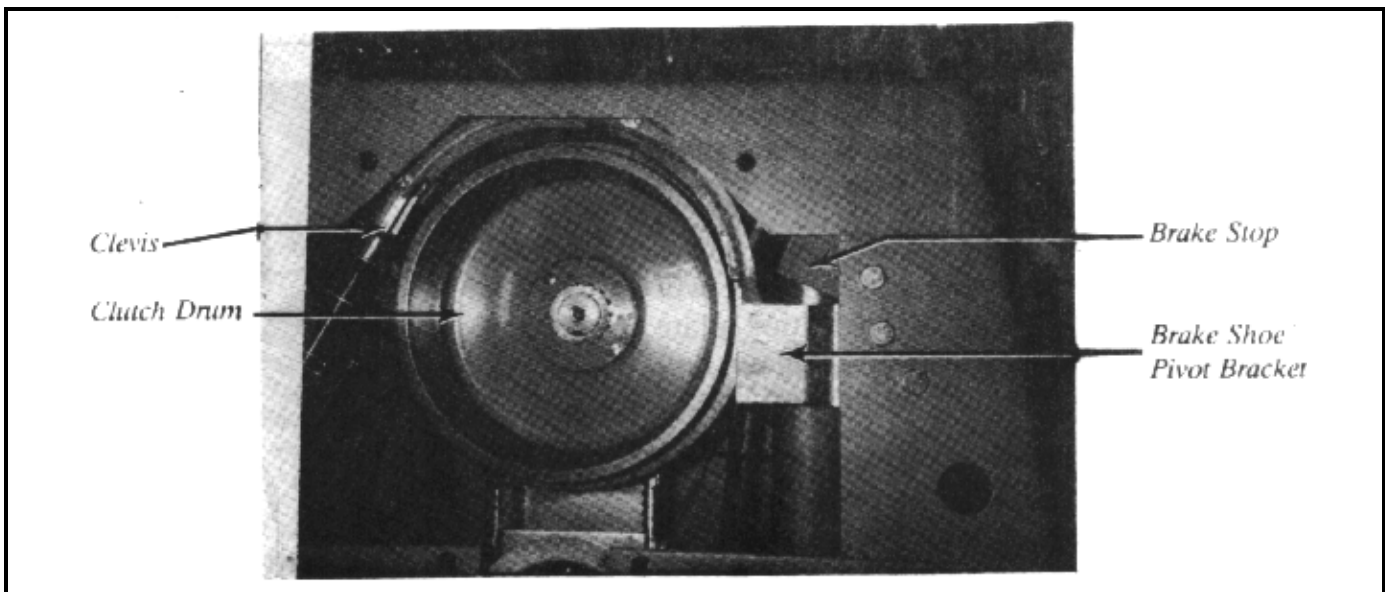

Figure 2 (MSSM0231AE)
- c. Mark the position of the brake air cylinder clevis on the cylinder shaft (fig 2). Loosen clevis lock nut and remove clevis from air cylinder by rotating cylinder. Remove brake shoe stop, pivot bracket and spring. **Note position of any shims.**